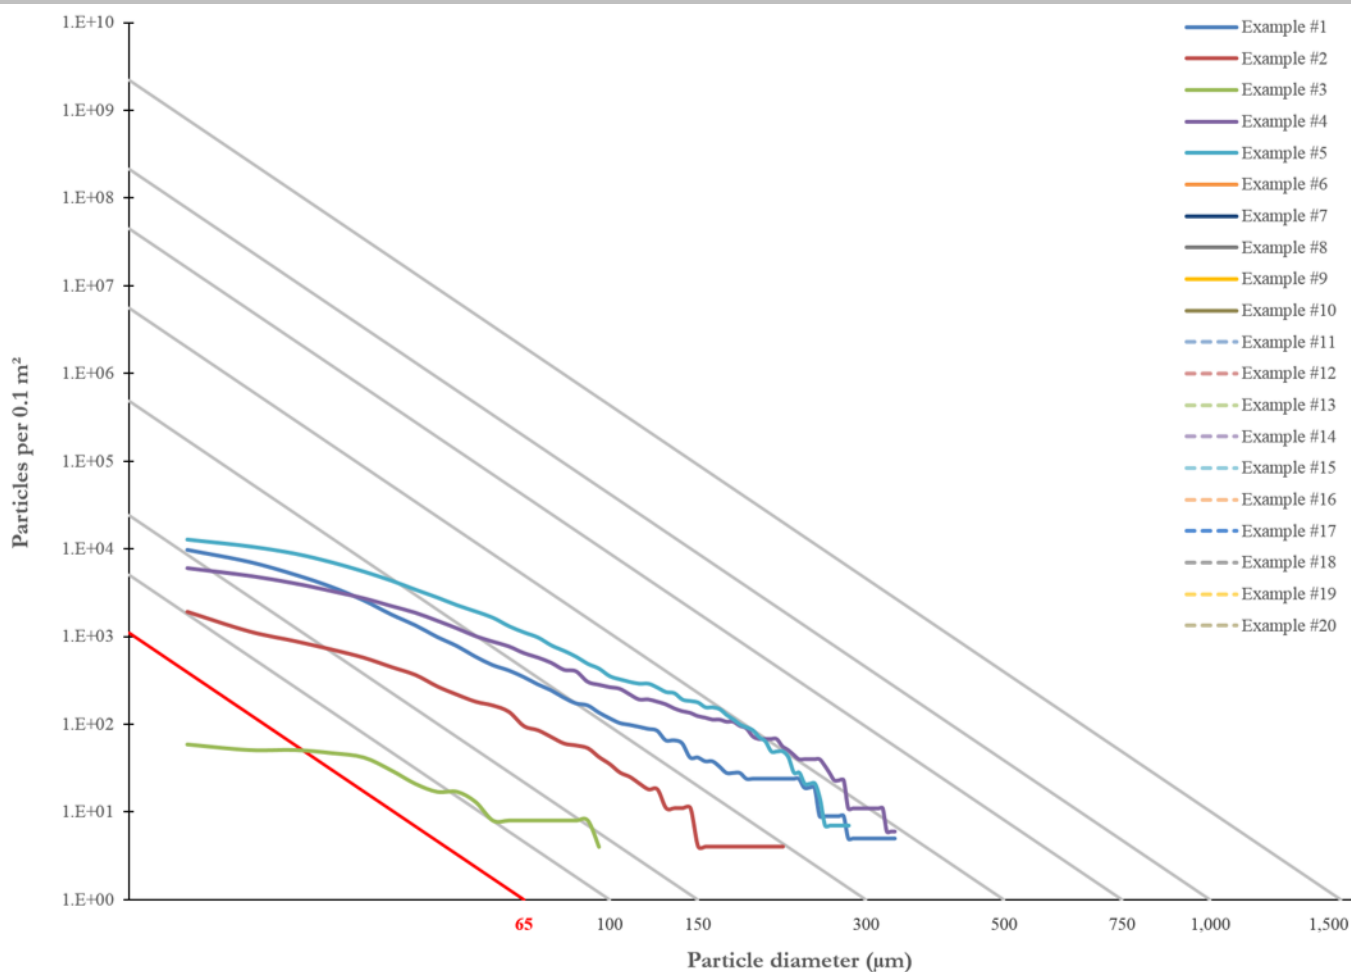

Figure 58. IEST-STD-CC1246D standard PCLs and swipe tool sample PCLs plotted on log-log² axes
6) Go to the appropriate graph sheet. The samples' PCLs are plotted on log-log² axes along with the standard PCLs (grey) and goal PCL (red), as shown in Figure 58 on the subsequent page.